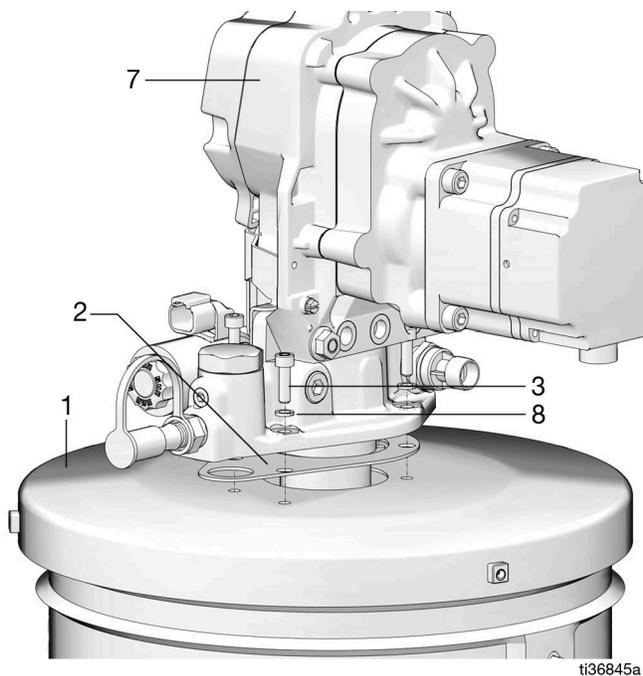

FIG. 9
9. Align the four washers (8) and four screws (3) with the pump (7), gasket (2) and drum cover (1) (FIG. 9). Use a wrench to tighten securely.